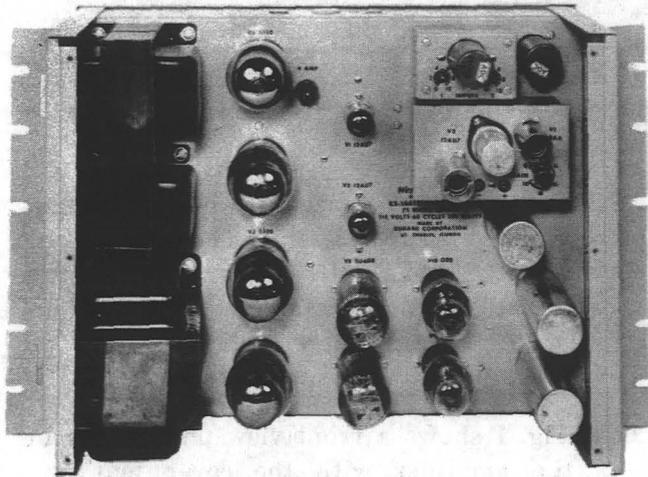

Fig. 2 - Rear View with Cover Removed and Plug-In Units Assembled
1.07 Fig. 2 shows a rear view photograph with the perforated cover removed and the plug-in units assembled. Two KS-16611, L1 Transformers are shown in the upper right-hand corner of the photograph. One is shown mounted in the mixer unit. The plug-in units are not in-